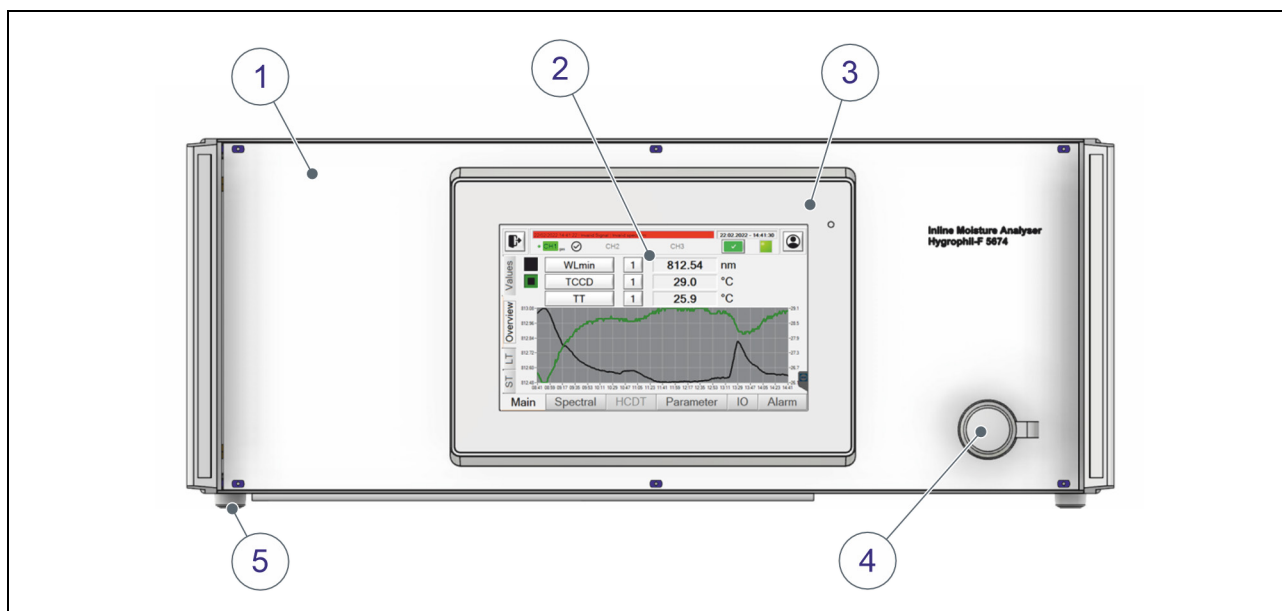

Figure 4.1: Device overview front side
- ☞ Install the device in a 19" rack (4 rack units) (see *Figure 4.1 on page 23*).